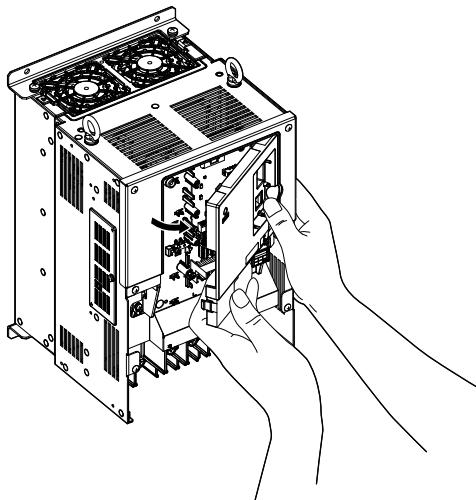

Figure 3.19 Remove the Front Cover (2A0010 to 2A0415 and 4A0058 to 4A1200)
4. Unhook the left side of the front cover then swing the left side towards you as shown in **Figure 3.19** until the cover comes off.